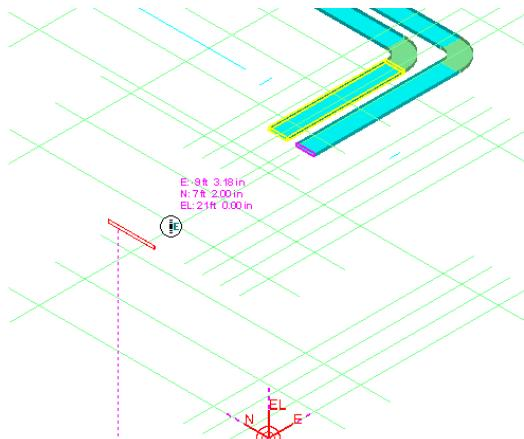

Figure 64: Extending Length for the Multi Tray
Extend the multi trays that you routed above by **10 ft** in the west direction. The workspace after extending the multi trays should resemble the highlighted area in Figure 64.
6. Position the cursor in the west direction, as shown in Figure 64.